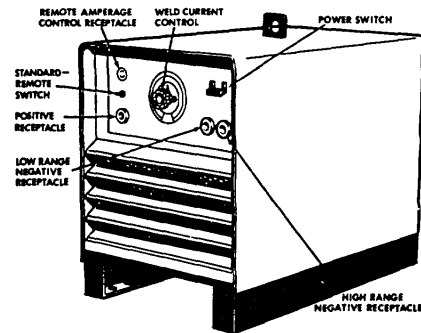

Figure 9 - Control Panel View of Welding Machine
- a. **Welding Current Ranges:** A **High** and a **Low** current range is available. Make current selection by inserting the electrode holder twistlock jack plug into either the **High** or **Low** receptacle. See Figure 9. If the required current is in both ranges use the **Low** range as better current control is had at the upper portion of the current range.
- b. **Polarity Selection:** Determine the welding current polarity needed for the particular welding application. Straight polarity is obtained by inserting the jack plug from the **work** cable into the **Positive** receptacle and the jack plug from the electrode holder cable into either of the **Negative** receptacles. For reverse polarity, reverse the connections. See Figure 9.